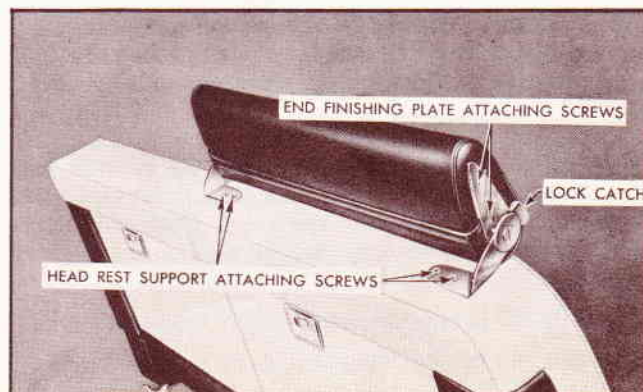

Fig. 5 Reclining Seat Back Head Rest Removal
- Raise head rest to the rest position, as shown in Fig. 5.
- Remove screws securing head rest supports to seat back assembly, Fig. 5 and remove assembly from seat back.
- To remove head rest inner support assembly or head rest outer support and lock assembly, remove head rest end finishing plate attaching screws, Fig. 5 and remove assembly from head rest.
- At end of head rest from which support is being removed, remove head rest end finishing plate attaching screws, Fig. 5 and remove support assembly from head rest.